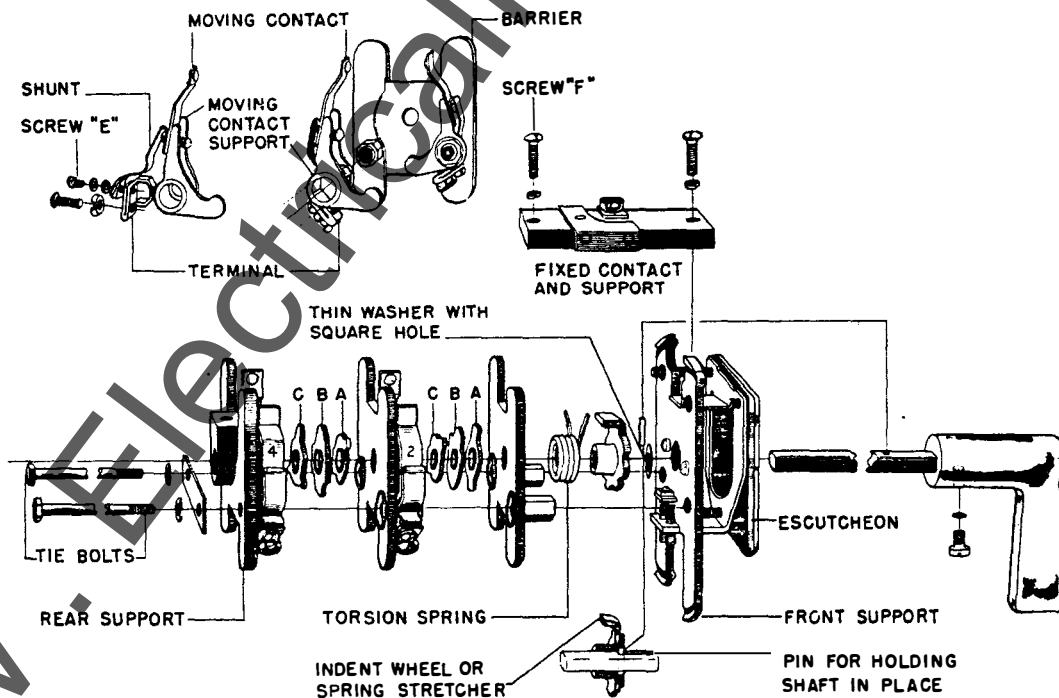

Fig. 5 Exploded View of Type SB-1 Switch
Type SB-1 and SB-9 switches are rotary cam-operated switches. Rotation of the switch shaft causes contacts to close or open according to the shape and setting of the cams in the various stages. Each stage has one or two contacts with two or three cams. On drawings these cams are designated A, B and C. (see Fig. 5). Cam (A) is the one nearest the panel and is the closing cam for the even numbered contacts. The (B) cam is next and is the opening cam for both contacts; cam (C) is farthest from the panel and is the closing cam for the odd numbered contacts. When a contact is omitted, its corresponding closing cam is omitted and a spacer substituted.
(8009283) Fig. 5
If a movable contact is burned, or has a broken shunt, replace the entire contact assembly. To do this, position the switch so the contact to be replaced is open. Remove screw (E, Fig. 5) and its clamping washer. Press in on the top of the contact to release the tongue at the lower end and pull the assembly upward and off (see Fig. 7).
Damage to a fixed contact requires replacement of the complete assembly of fixed contacts and support. Remove screws (F, Fig. 5), change assemblies and replace the screws. Operate the switch and check the contact alignment.
Before dis-assembling the switch, secure a drawing showing the cam arrangement in all the stages of the switch. Turn the switch shaft to the switch position corresponding to the cam arrangement. This is a twelve-o'clock position unless otherwise noted on the drawing. Remove the handle and fixed-contact support. Unscrew the tie bolts from the switch support, but leave them in the switch. Stand the switch on the bench, resting on the rear support, and slip the front support off the shaft being careful to hold the shaft in the switch so as not to pull it out of the cams in the rear stages. Do not lose the ball from the positioning device. Slide the shaft out just enough to remove the pin, through the shaft, which seats in the counterbore in the indent wheel or spring-stretcher (refer to Fig. 5). Do not slide the shaft out of the cams in the rear stage. Push the shaft back into the switch and slip off the indent wheel and thin washer that is assembled between the indent wheel and front support. Remove the first barrier to expose the cams for contacts No. "1-2".
On the drawing, the cams for each stage are usually shown in horizontal rows of three cams, or two cams and a spacer. Beside each horizontal row are the numbers of the contacts, such as "1-2", with which the cams are used. The vertical rows are lettered "A", "B", and "C". Cam (A) is the one removed first, working from the front end of the switch, cam (B) next, and cam (C) last (see Fig. 5). Unless otherwise stated, the position of the cams on the drawing are for the twelve-o'clock switch position.